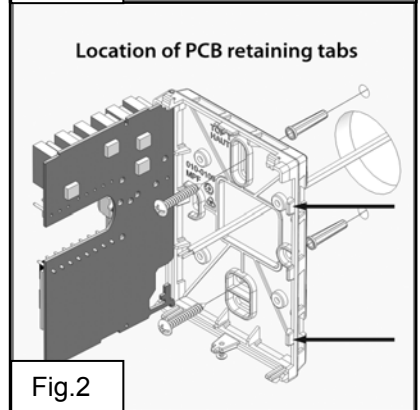

Fig.2
7. Insert screws in mounting holes on each side of the base (fig. 2).